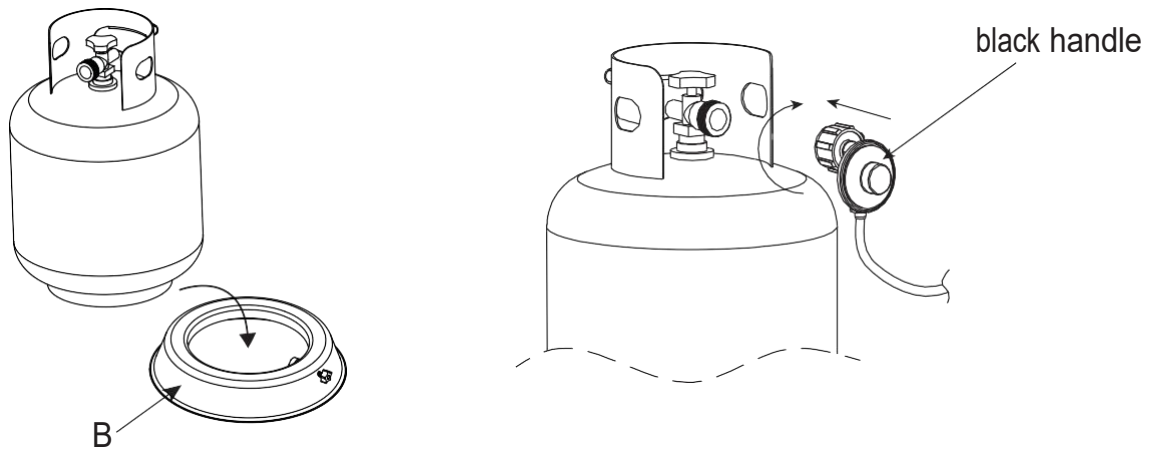

Figure 3
3. Put the gas tank in the tank seat (B), connect the regulator, screw the black handle clockwise to tighten, turn the black handle counterclockwise to remove. The hose must point down. The knob on the control panel is turned all the way to the "OFF" position when the fireplace is NOT in use (see Figure 3).